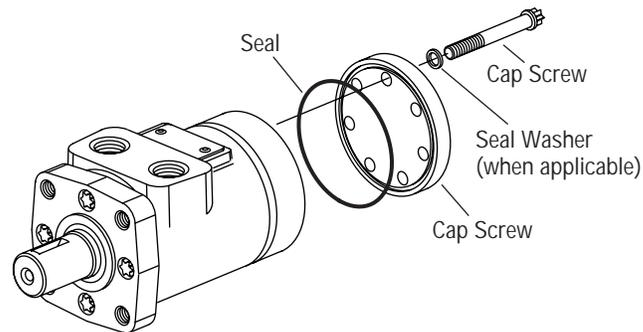

Figure 2
- 2 Remove cap screws and seal washers (when applicable – see Figure 2).